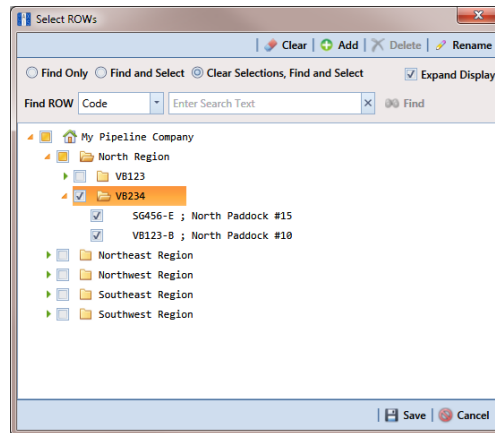

Figure 3-65. Select ROWs
- 1 Click the **Select ROWs** button  to open the *Select ROWs* window (Figure 3-65). Select one or more pipeline segments with facilities you want to work with, then click  **Save** to close the window.